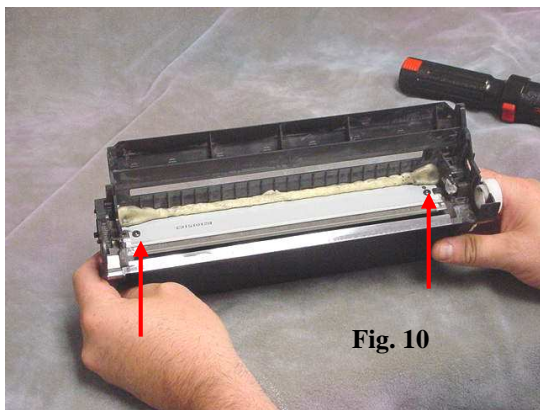

Fig. 10
10. Remove the two screws that secure the wiper blade. (Fig.10)